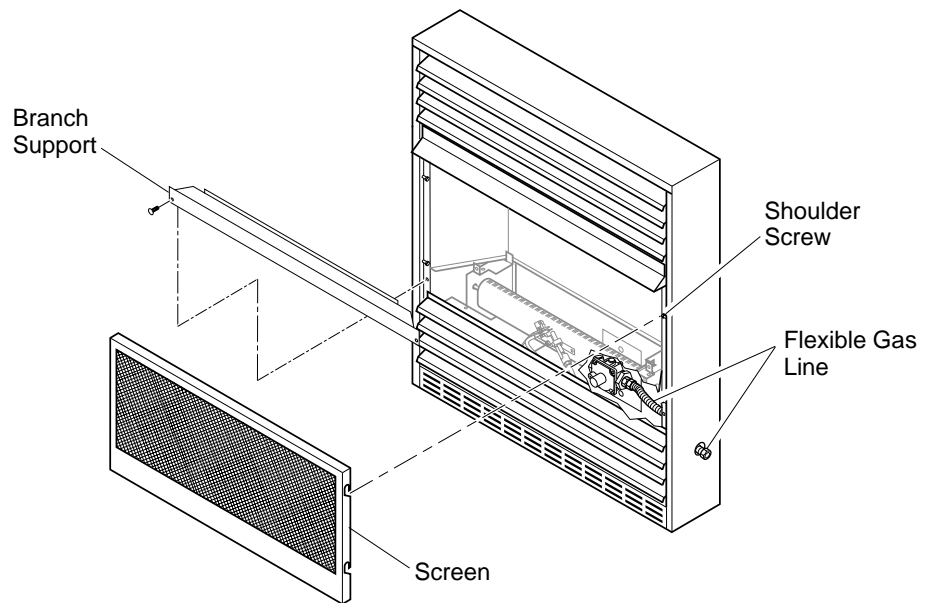

Figure 24 - Removing Log Base Assembly From Fireplace
2. Remove screws that attach branch support to fireplace (see Figure 24). Carefully lift up branch support and remove from fireplace (see Figure 24).